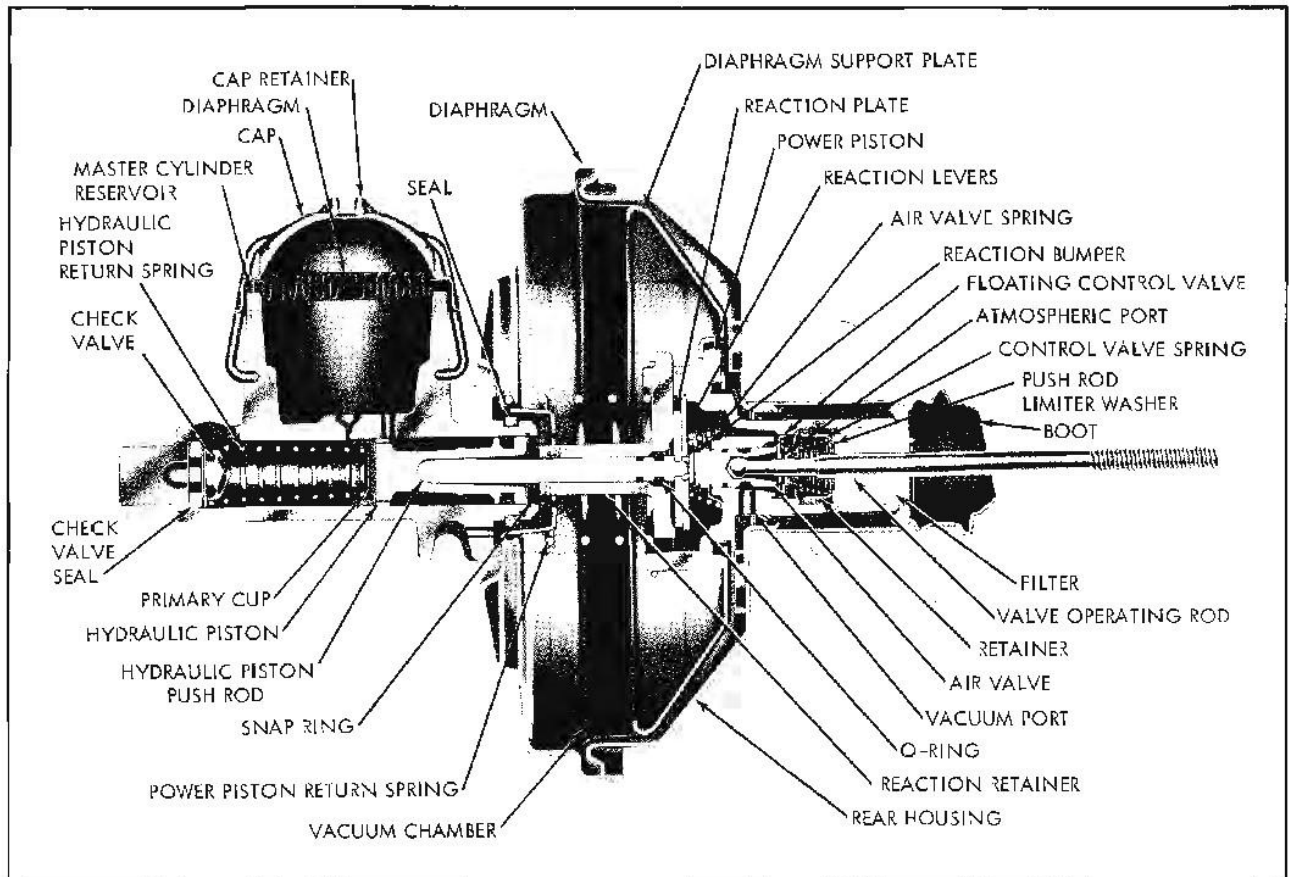

Fig. 5A-1 Released Position
**APPLYING POSITION (Fig. 5A-2)**